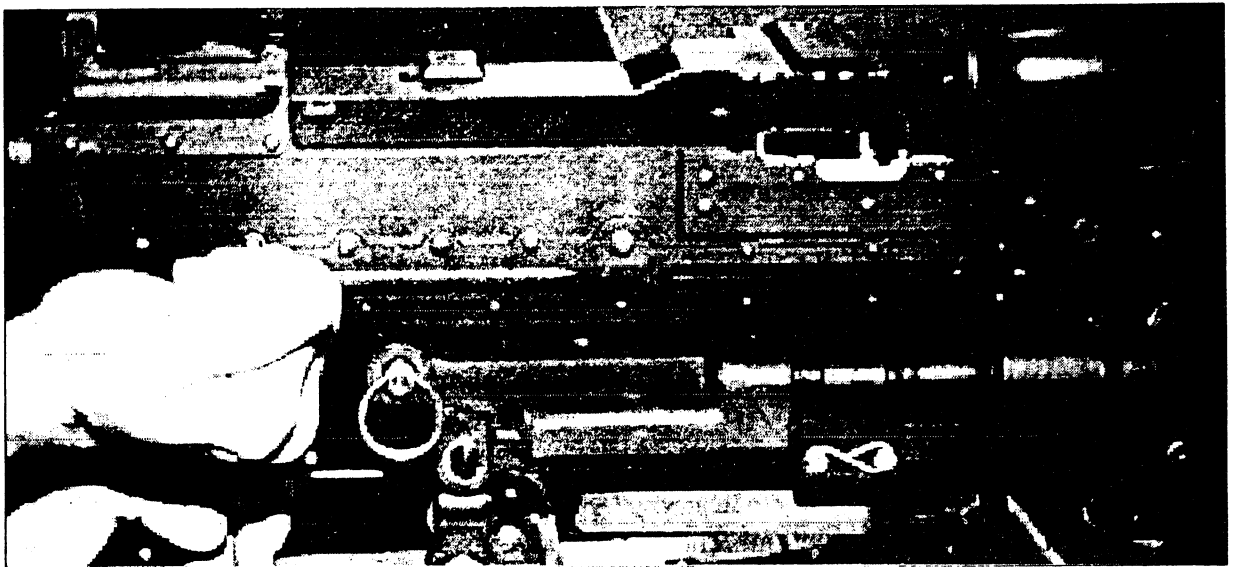

Fig 1-8. Pulling cocking handle to rear.
- (2) Pull cocking handle to rear to lock bolt back (see fig 1-8); then push the handle all the way forward.